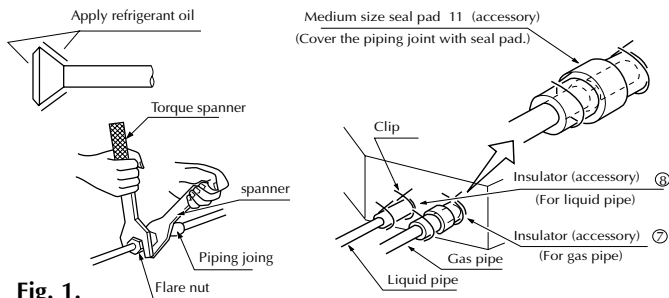

Fig. 1.
- Refer to Fig.1, when connecting and removing piping from unit.